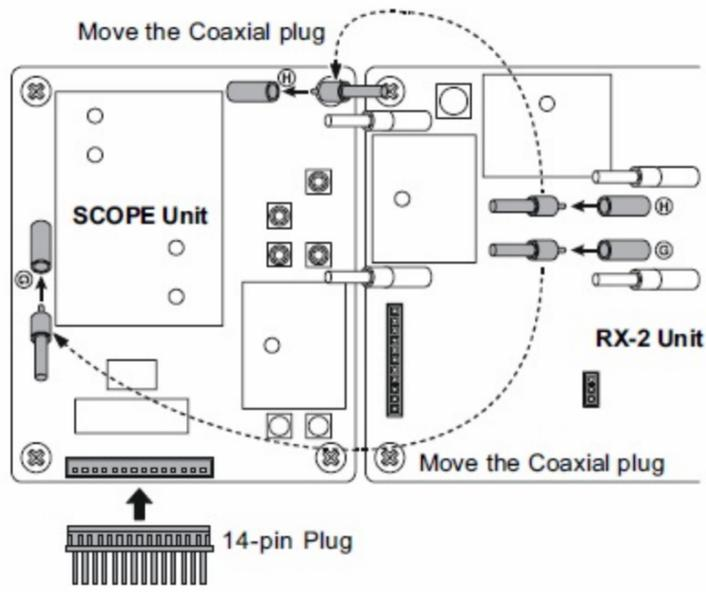

Figure 4
5. Referring to Figure 4, plug the 14-pin plug which was removed from the chassis in the previous step into the J7002 connector on the SCOPE Unit.
6. Locate the Coaxial plugs (labeled Ⓞ and ⊕) installed in jacks (J4508 and J4507) on the RX-2 Unit. Unplug the Coaxial plug (Ⓞ) from the RX-2 Unit and plug it into the J7003 on the SCOPE Unit. Unplug the Coaxial plug (⊕) from the RX-2 Unit and plug it into the J7001 on the SCOPE Unit (Figure 4).